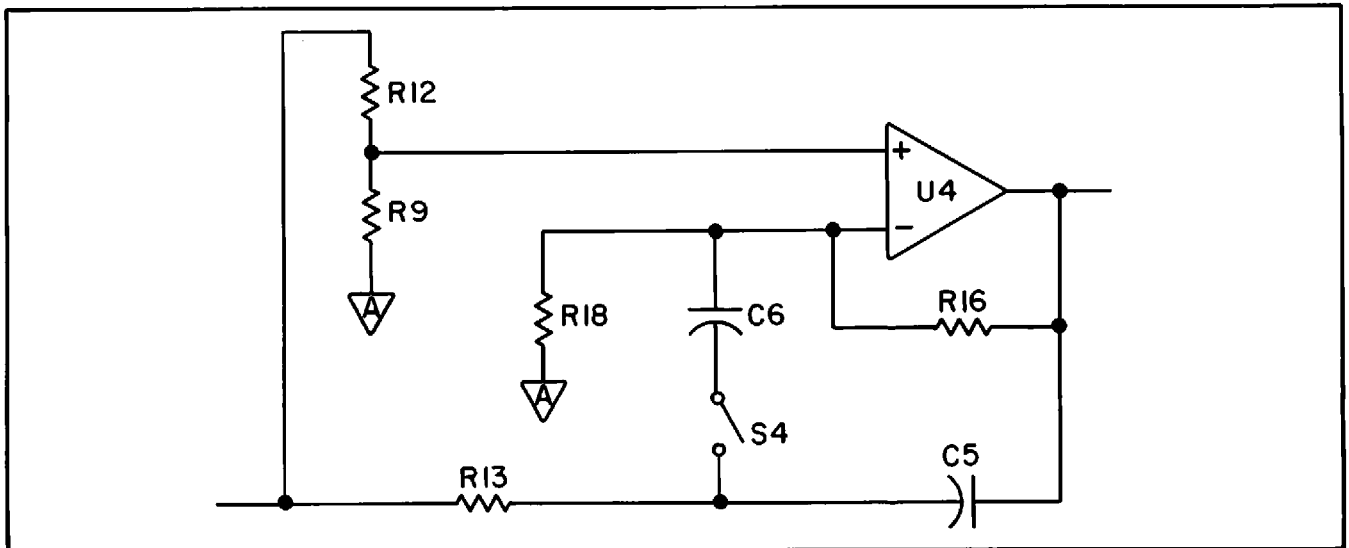

Figure 2-12
2.3.3.1 50/60 Hz Notch Filter (Fig. 2-12)